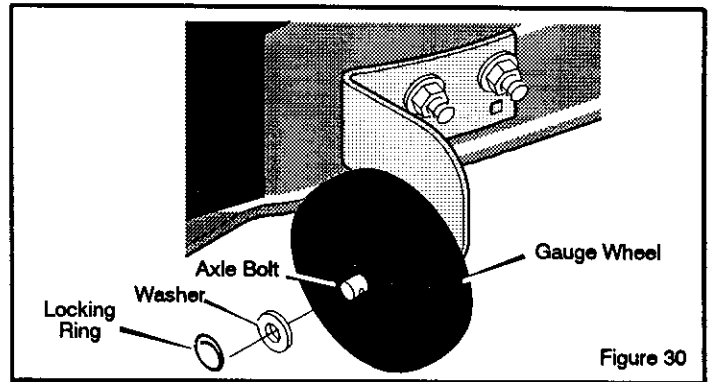

Figure 30
1. Remove the gauge wheels (Figure 30).